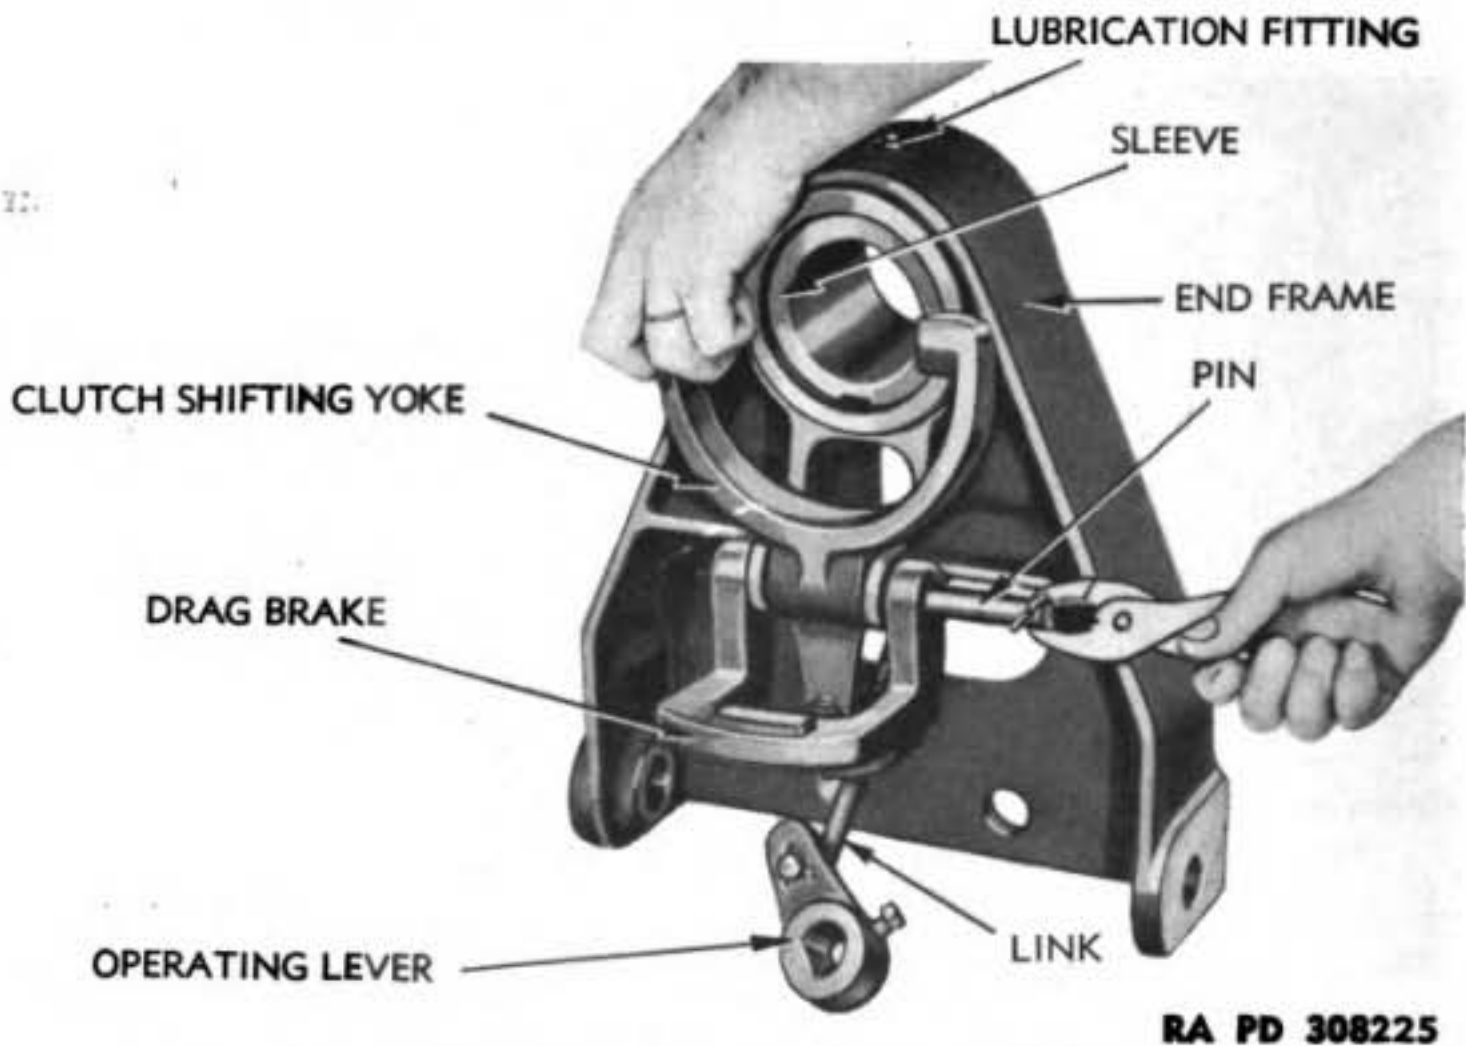
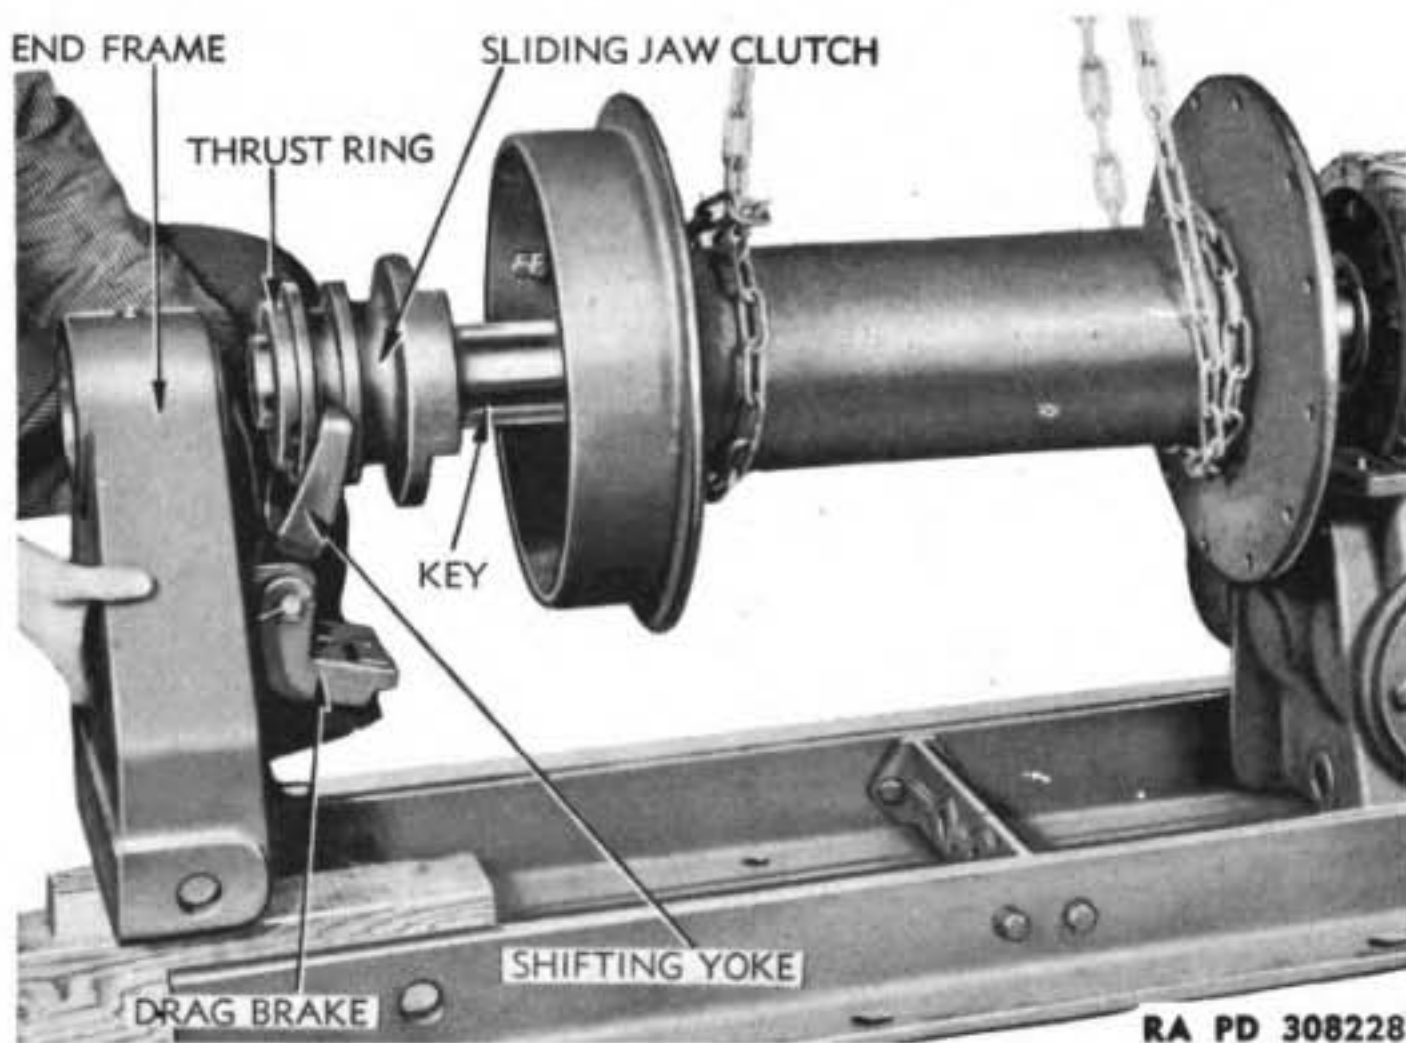

Figure 123 – Removing Clutch Yoke Pin
Figure 126 – Installing End Frame Assembly on Drum
(1) Remove cap screw and washer from clutch end of drum shaft. Slide end frame, outer thrust ring, and sliding jaw clutch towards end of shaft far enough for clutch yoke to slip down out of clutch when end frame is removed from shaft. Remove end frame with clutch shifting yoke attached (fig. 126). Remove outer thrust ring and jaw clutch.
j. Disassemble End Frame (fig. 123). Pull cotter pin from one end of clutch shifting yoke pin, pull pin from clutch yoke and end frame, and remove yoke. Pull cotter pin and remove operating lever from yoke link. Remove lubricating tube and nipple from sleeve in end frame through hole in top of end frame and slip sleeve out of end frame. Tap dowel pin out of end frame.
(6) Install the sliding jaw clutch onto shaft with jaws toward drum and make sure clutch slides freely over keys. Slip outer thrust ring on shaft with notches engaging ends of keys (fig. 126).
j. Assemble and Install End Frame on Drum Shaft (fig. 123). Tap dowel into lower side of hole in end frame. Insert sleeve into end frame with slot in sleeve registering with dowel. Install nipple for lubricating fitting in hole in upper side of sleeve. Install shifting yoke and drag brake on end frame with clutch yoke pin. Secure pin with cotter pin. Install short operating lever and link on shifting yoke; secure with cotter pins. Slide thrust ring and jaw clutch close to end of shaft. Install end frame assembly onto shaft, engaging shifting yoke in groove of sliding clutch as end frame is raised to slip onto end of shaft (fig. 126).